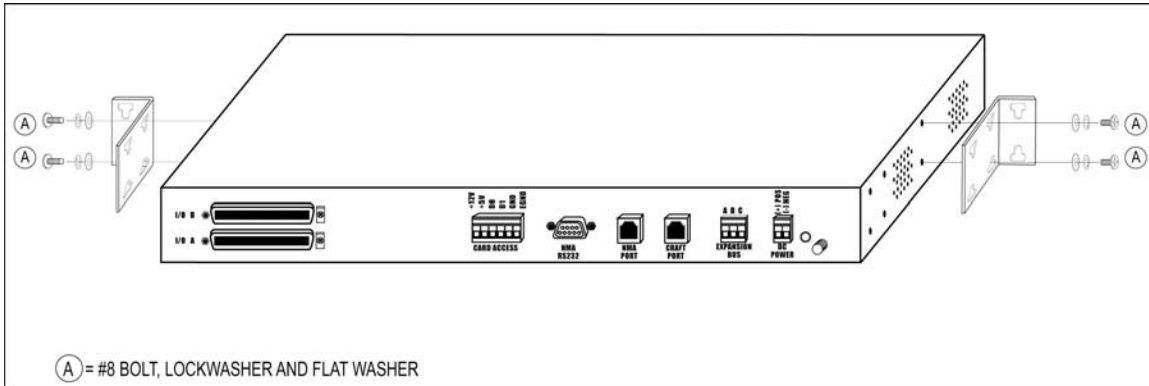

Figure 3. Bracket Orientation for TELSEC® Installation into 19-inch Equipment Rack.
The TELSEC® is shipped with two (2) angle brackets, which allow the system to be mounted in either a 19-inch or 23-inch equipment rack. The brackets are reversible, with a long side and a short side. To mount the system in a 19-inch rack, (See Figure 3.) the long side of a bracket is attached to each side of the TELSEC® (using the #8 mounting hardware provided) and the short sides of the bracket are attached to the equipment rack (using the #12 mounting hardware